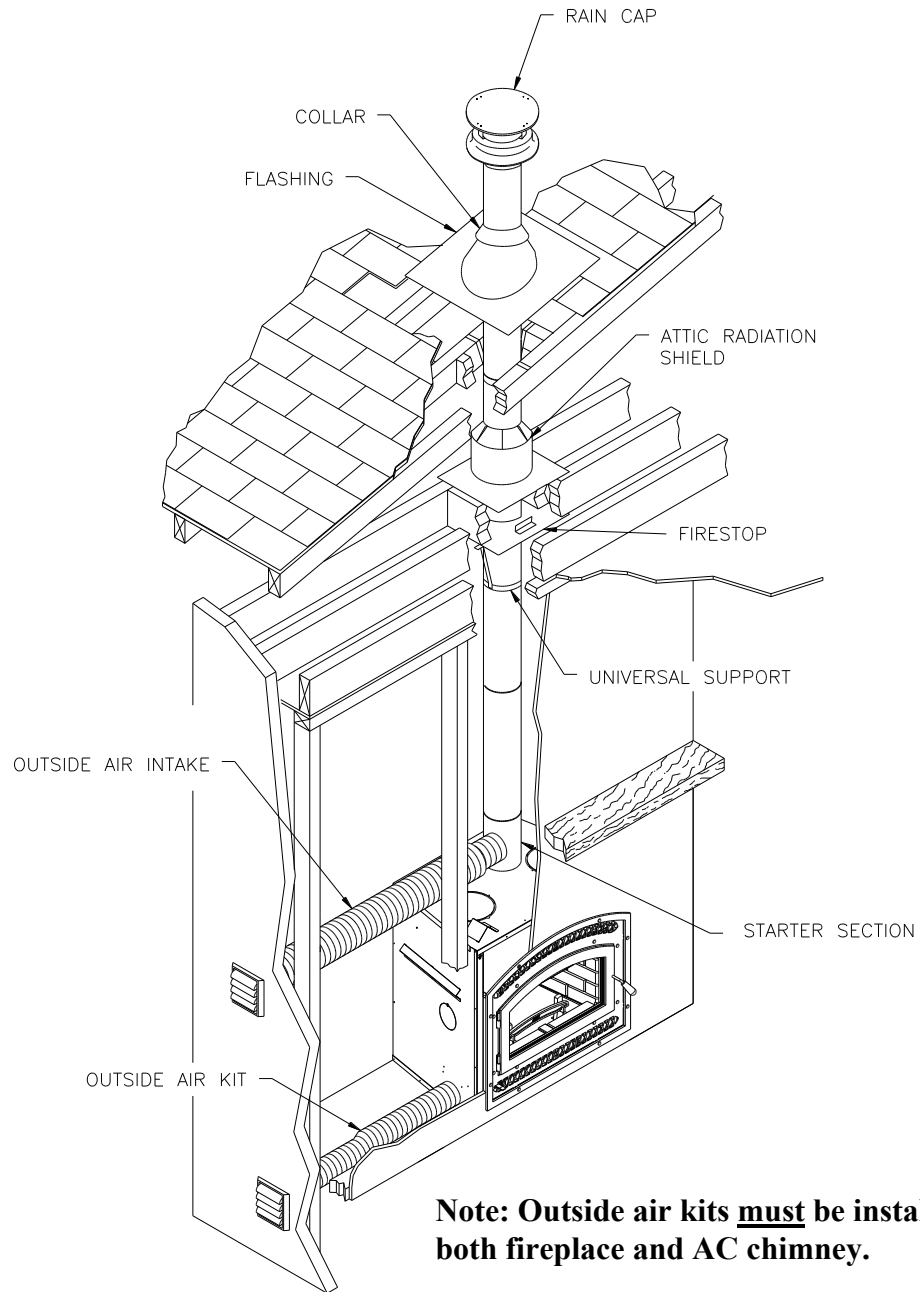

Figure 30
3. For ASHT+ / HT6103+ and S-2100+ / HT6000+ chimneys, place the first chimney length on the fireplace. To lock it in place, turn  $\frac{1}{4}$  of a turn clockwise. With the AC chimney, you must use a starter section before installing the first chimney length (figure 30). Continue installing chimney lengths making sure to lock each length in place.